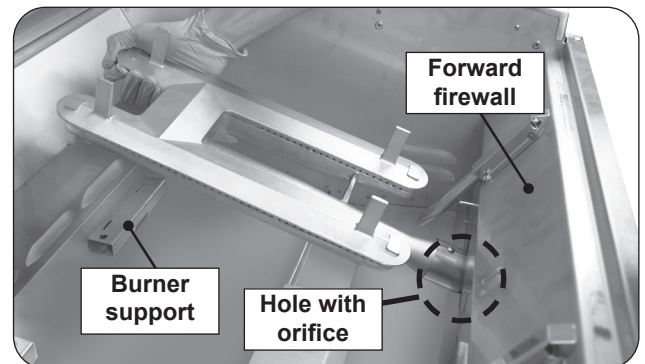

Fig. 37-3 Remove main burner
3. Carefully lift the burner from the burner support and out from the hole in the forward fire wall. See Fig. 37-3.